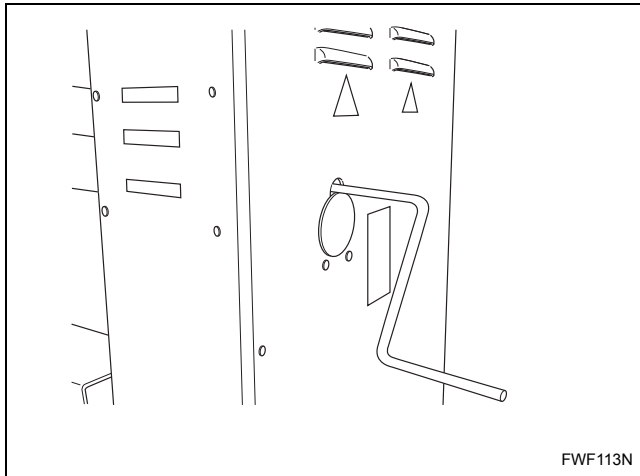

Figure 17
- c. Turn roll with crank handle. Refer to *Figure 17*.